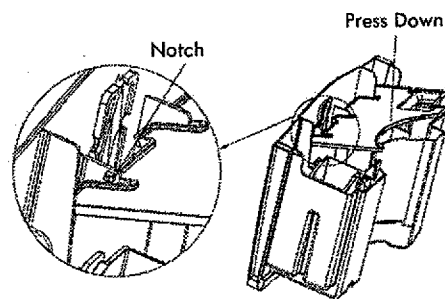

Fig. 4
4. Replace the bucket cover. Make sure the cover is locked into the notches on the bucket and push down (Fig. 4 & 5).